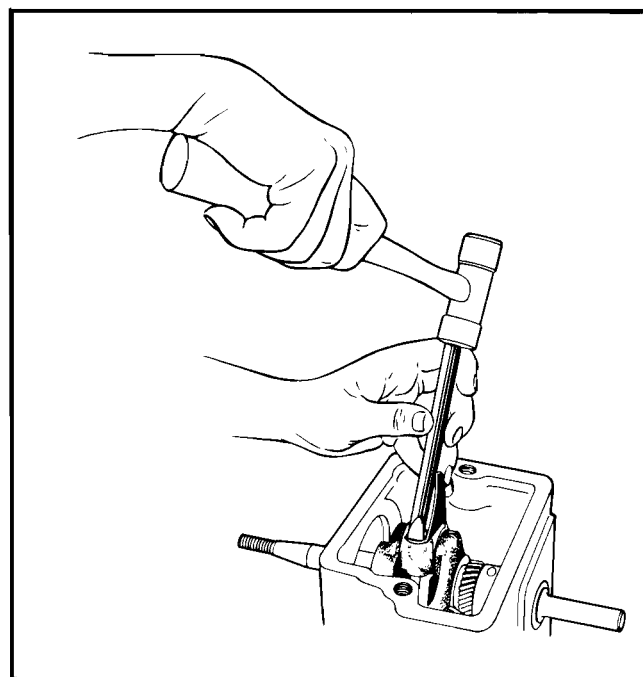

Figure No. 41—Removing Connecting Rod Bolt Locks
- b. If the piston is to be reused, mark it in respect to the connecting rod, so they can be reassembled in their previous relationship. (See Figure No. 41.)